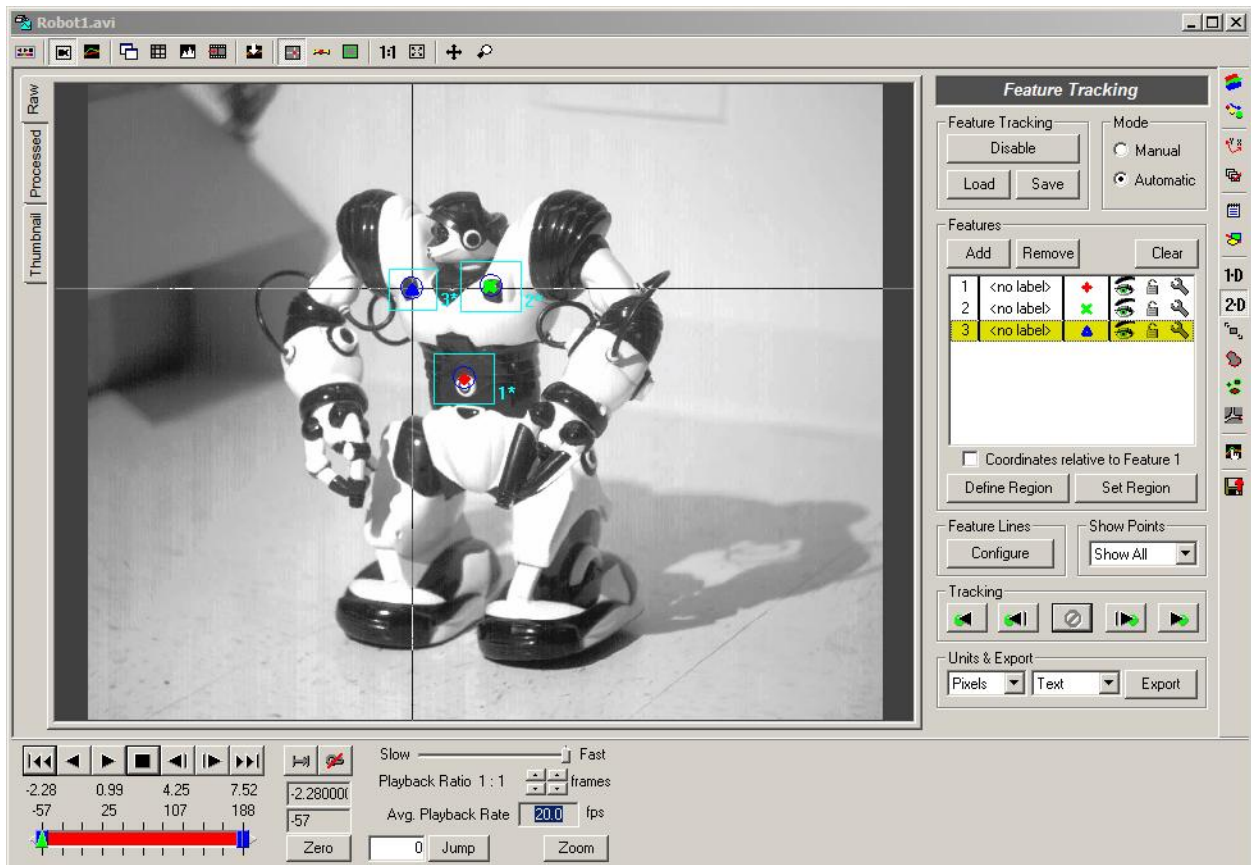

Figure 11. Robot with features defined
3. After all three features have been defined as shown in Figure 11, click the **Track Forward** button  to see the movement of the features.